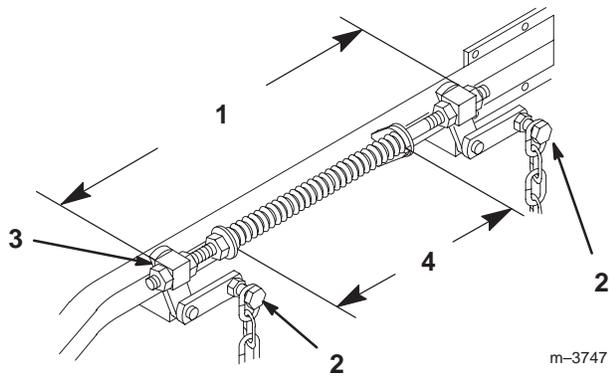

Figure 52
- Raise the deck to the transport position and take all force off of the two large deck lift springs by loosening nut in front of each spring (Fig. 52).
- Loosen four (4) top chain bolts in slots. Check the length of the rod/swivel assemblies. Distance from outside of rear swivel to outside of front swivel should be 19-17/32 in. (496 mm) (Fig. 52). Make sure that all four swivels move freely in holes.
2. Springs are compressed so the distance between the two large washers should be 10-1/4 in. (260 mm) (Fig. 52).
3. Adjust by turning nut in front of each spring (Fig. 52). Clockwise will shorten spring; counterclockwise will lengthen spring.